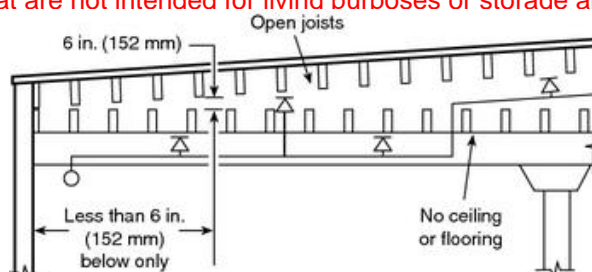

FIGURE 8.6.4.1.5.1 Arrangement of Sprinklers Under Two Sets of Open Joists — No Sheathing on Lower Joists.
8.15.1.2.3 Concealed spaces formed by studs or joists with less than 6in. between the inside or near edges of the studs or joists shall not require sprinkler protection (see figure 8.6.4.1.5.1)